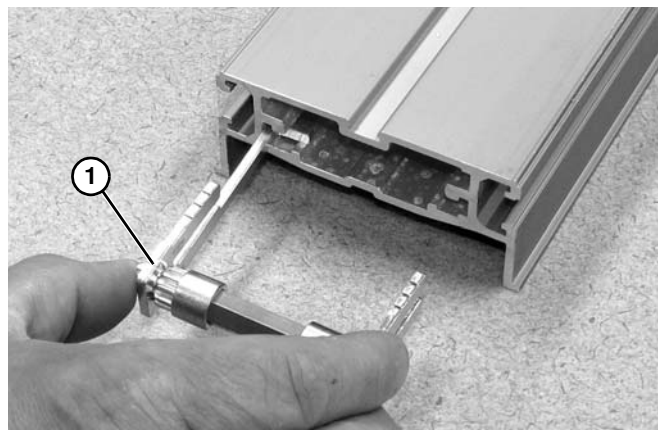

Figure 92
7. Insert pinion assembly (**Figure 92, item 1**) into conveyor frame.